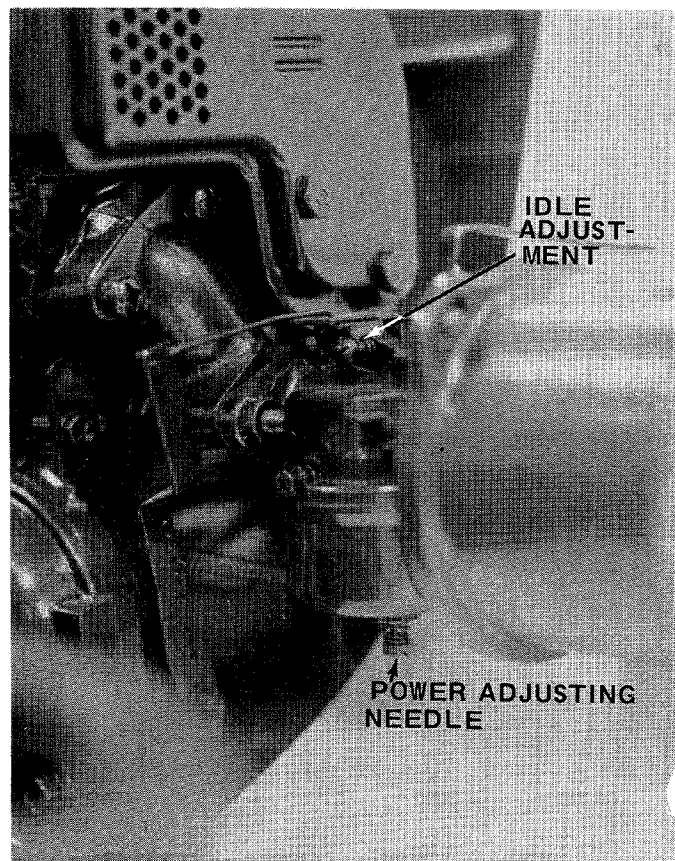

FIGURE 19
CARBURETOR ADJUSTMENTS (See figure 19)
1. Close power adjusting needle (figure 19) by turning to right (clockwise). Close finger tight only. Forcing will cause damage.
3. Close idle adjusting needle (figure 19) by turning to right (clockwise). Close finger tight only. Forcing will cause damage.
7. Hold throttle lever closed or move carburetor control to IDLE or SLOW position and adjust idle adjusting needle until engine runs smoothly proceeding in step six (6) above.
8. Allow several seconds between each adjustment when performing either step six (6) or seven (7) to allow engine to react to new setting.